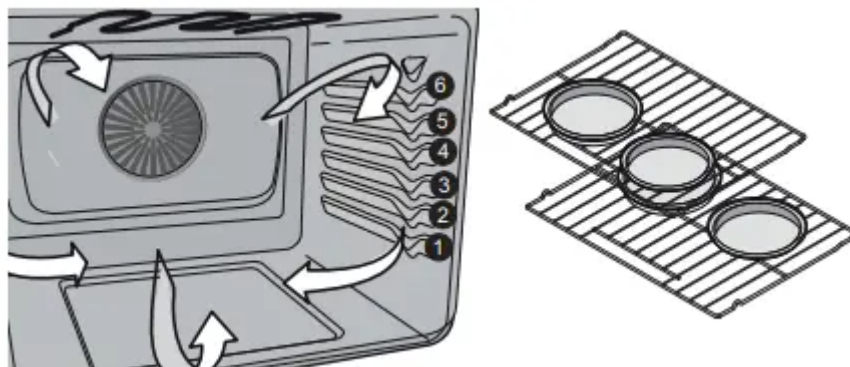

Figure 14: Rack positions and suggested pan placement
- When baking cakes using two oven racks place bakeware in positions 1 flat and 3 glide and place bakeware as shown in Figure 14.